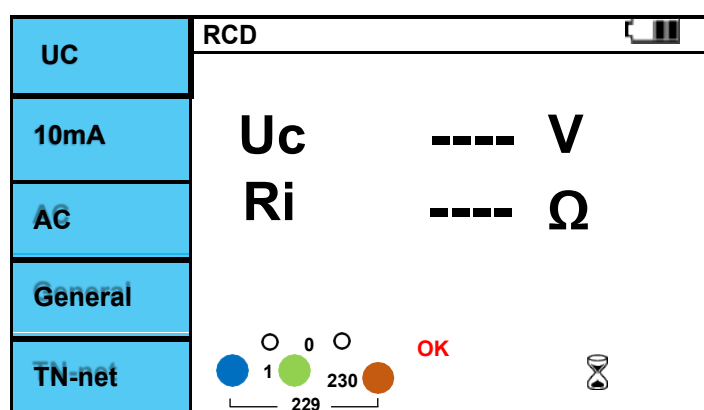

Figure 6.6.4 RCD / Uc screen.
- IV. If there is no problem with the test lead connection, "OK" is displayed as shown in Figure 6.6.4.